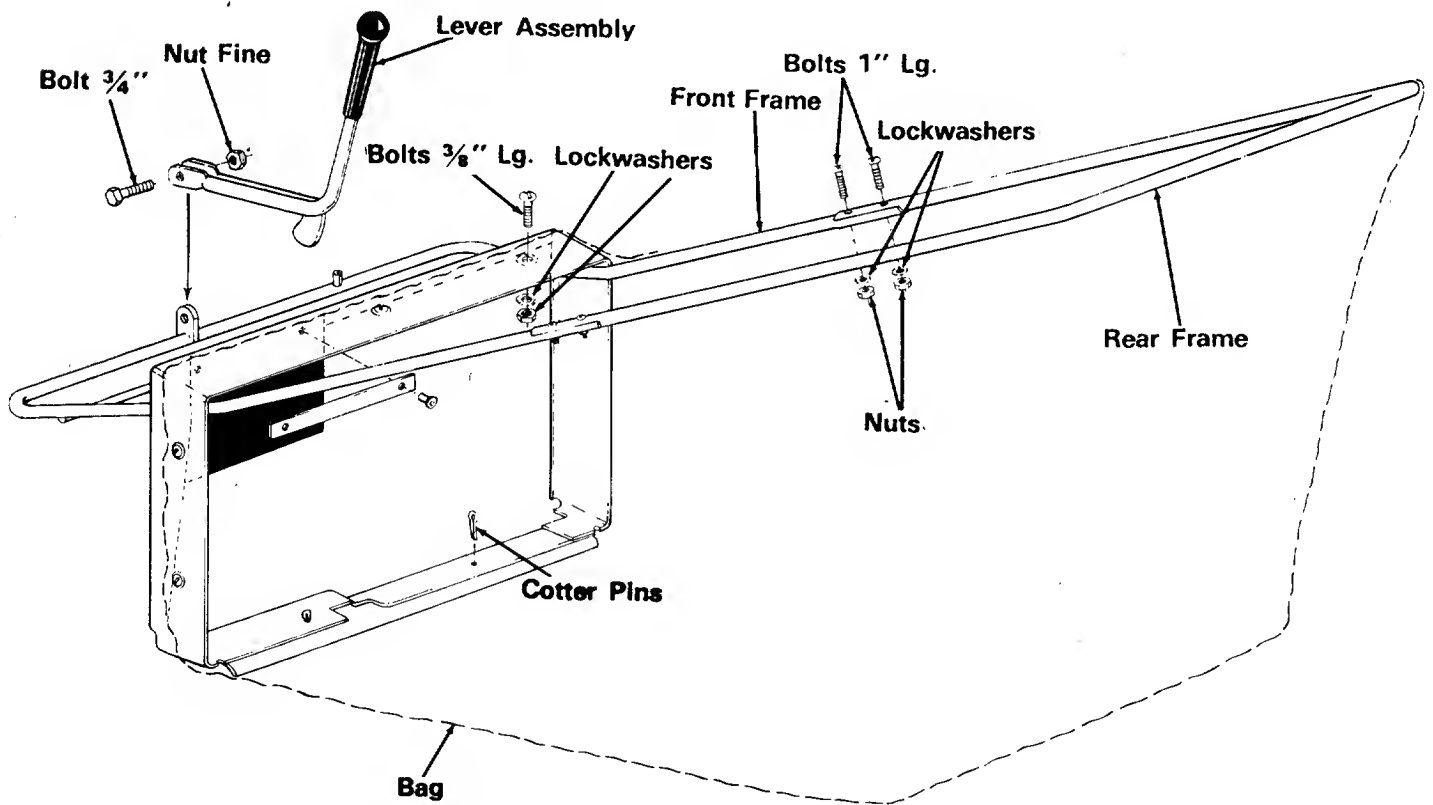

Figure 5
- 1 Assemble the rear frame to the front frame with the four 1" bolts, lockwashers and nuts. (See figure 5.)